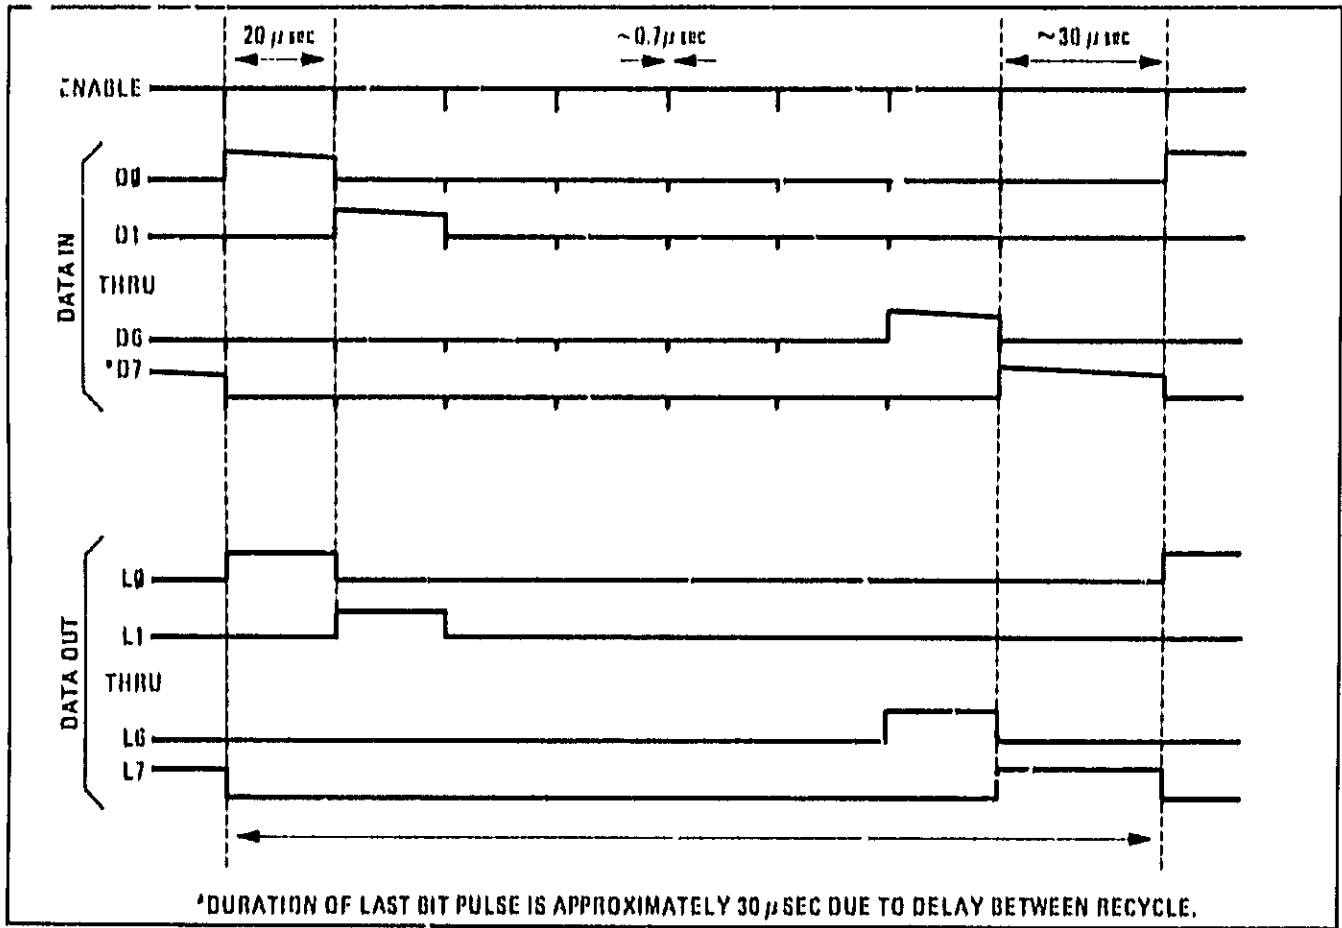

Figure 8-2 Hex Data Rotation Write - Bit Pattern
- HEX DATA ROTATION WRITE, M4, strobes a '1' (high state) through a column of zeroes (low states) to the addressed device. In effect, Hex Data Rotation Write is a rapid WRITE mode, exercising the addressed device in real time. The microprocessor inputs the data continuously, without servicing interrupts from the rest of the instrument. Latch enable lines, inputs, and outputs can be checked in this mode. Figure 8-2 illustrates the appropriate waveforms.